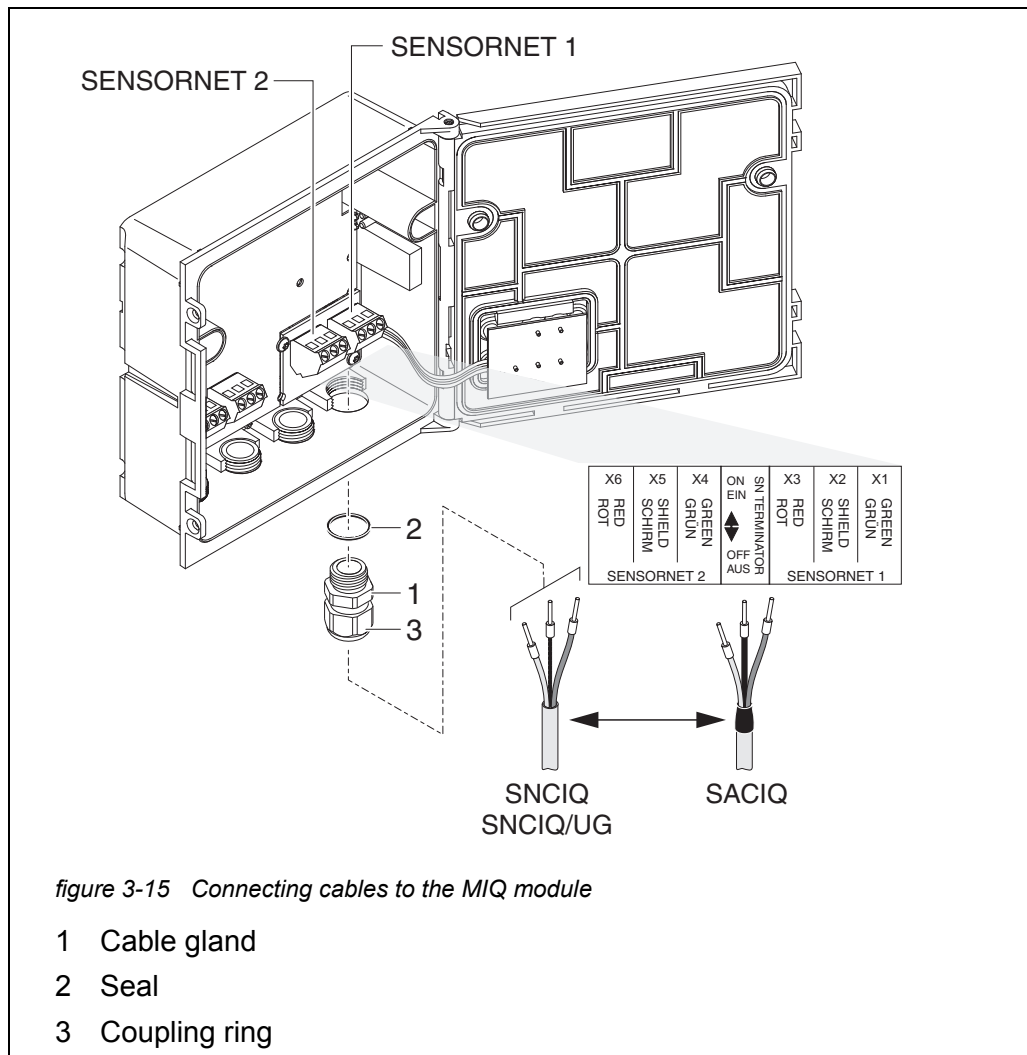

figure 3-15 Connecting cables to the MIQ module
- 3 Screw the cable gland (pos. 1 in figure 3-15) with the sealing ring (pos. 2) into the module housing.
- 4 Loosen the cap nut (pos. 3 in figure 3-15).
- 7 Tighten the cap nut (pos. 3 in figure 3-15).